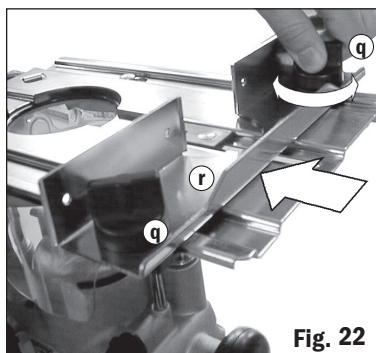

Fig. 22
4. Loosen the Fence Knobs (q) a few turns and slide the Fence (r) onto the base from the chosen end. **Fig. 22.** Lock at the desired setting by tightening both fence knobs.